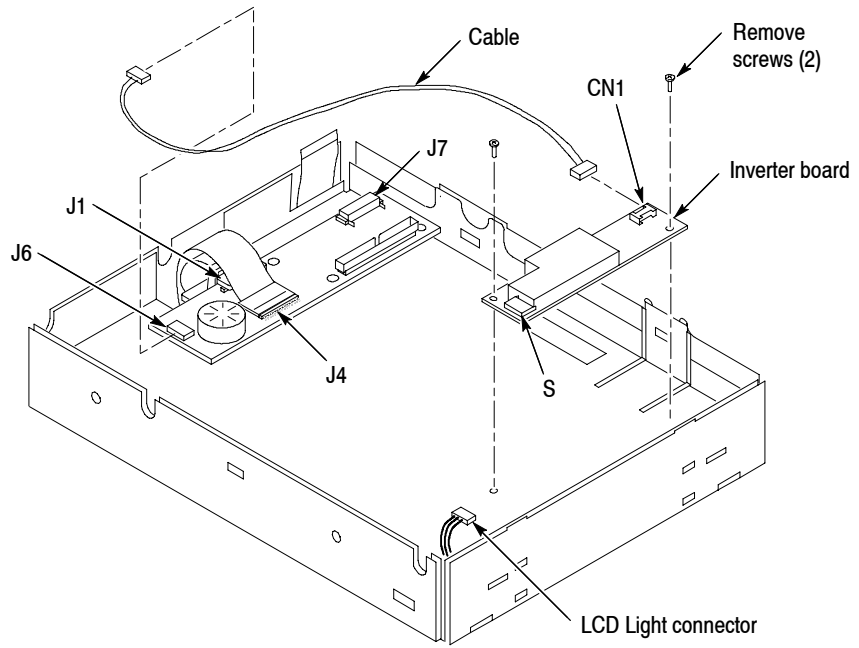

Figure 4: Remove Inverter circuit board
- a.** Disconnect cables J1, J4, and J7 from the Display Adapter circuit board. See Figure 4 on page 7.
- b.** Disconnect the LCD light connector (S) from the Inverter circuit board.